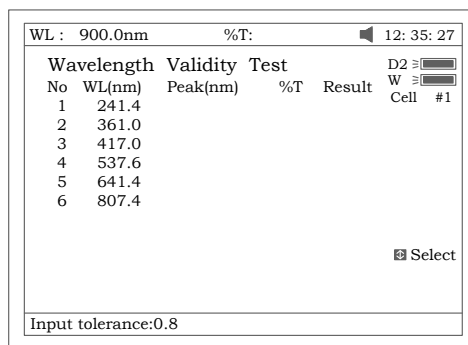

Fig 98
- Press **【F3】** to set tolerance (Fig 98). Input the value by pressing the numeric keypad.